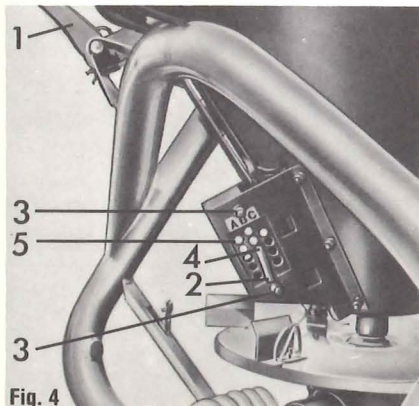

Fig. 4
The control rod (Fig. 4/2) will be inserted according to the setting determined from the setting chart into the hole of the dial-plate (Fig. 4/5) with the hole rows A-C. The hole row C lies next to the hopper, the hole numbers are counting from down to up.
By operating the shutter control lever (Fig. 4/1 and Fig. 5/1) both shutters will be opened to the same extent according to the pre-set adjustment (Fig. 4/4).
3. Check the shutter opening (Fig. 8/1). The shutters should be open $1\frac{7}{16}$ " (37.5 mm) on the bottom side as indicated. To attain this setting, loosen the regulator plate bolts (Fig. 4/3) and shift the plate up or down to obtain the proper setting. Check and **adjust** each shutter **separately**. Tighten bolts.